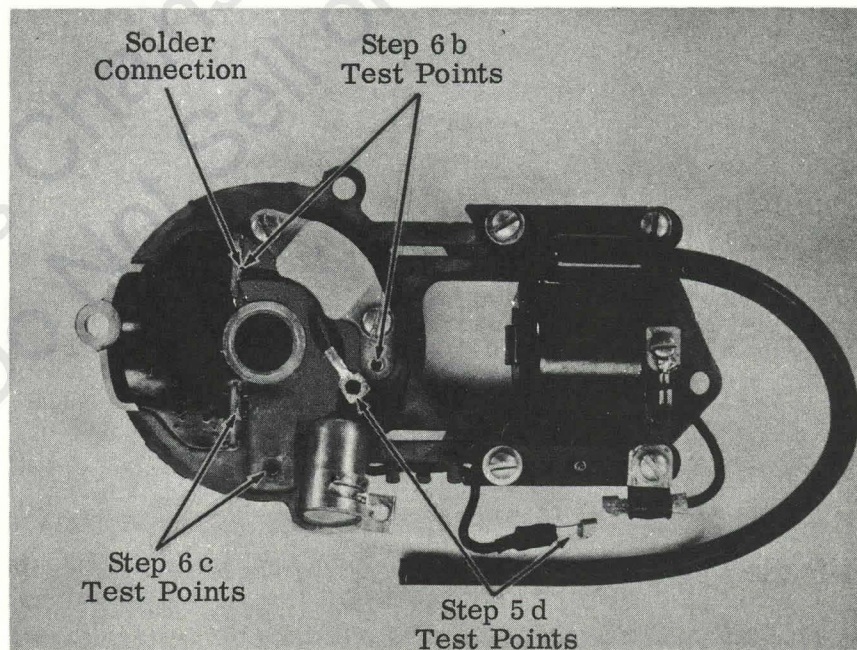

Figure 2
5. Switch Box Testing (Figure 2)
6. Trigger Coil Testing (Figure 2)